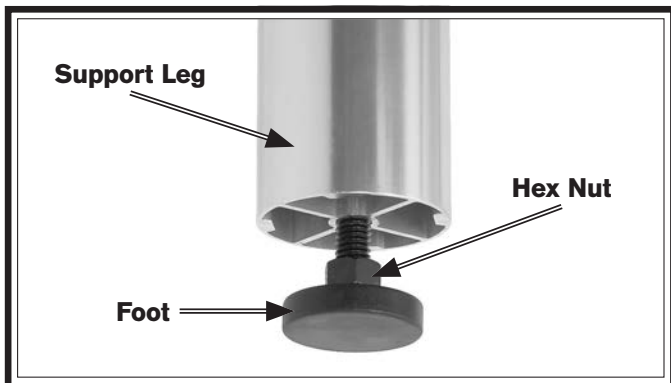

Figure 27. Foot installed on support leg.
- Thread $\frac{3}{8}$ "-16 hex nut onto each foot, then thread one foot into bottom of each support leg as shown in **Figure 27**.